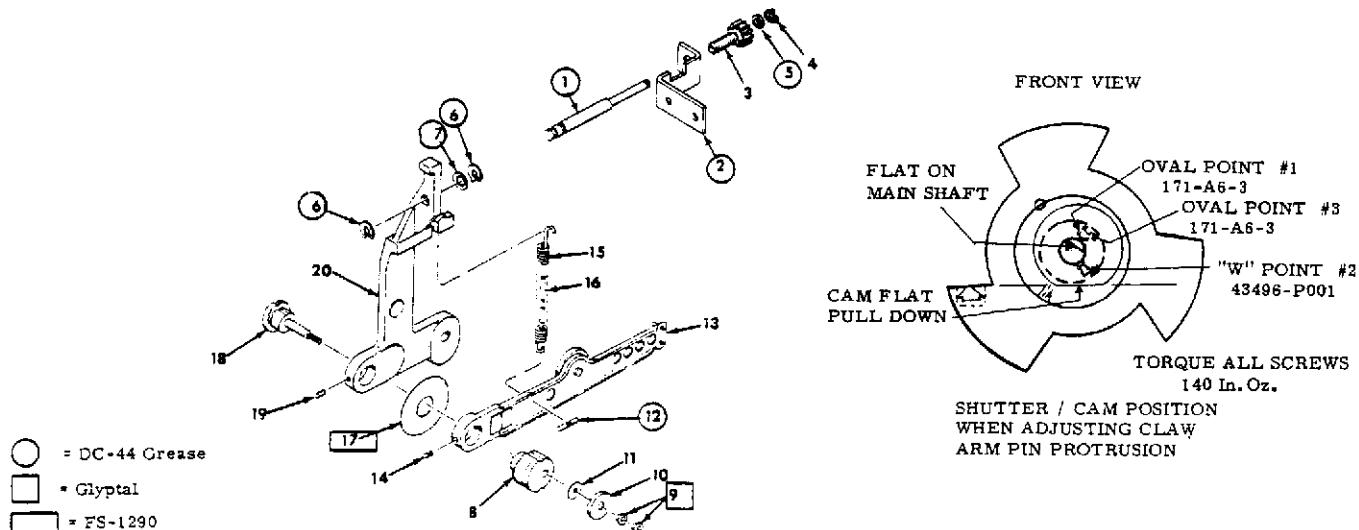

Figure 3-20. REMOVAL AND REASSEMBLY OF CLAW ARM
1. Unhook the top of the Claw Arm Spring from the Framing Arm and make sure all tension is off the Claw Arm before proceeding with these instructions. Throughout this procedure, be extremely careful of the Claw Arm Pins (Figure 3-20).
1. Unhook the top of the **Claw Arm Spring** (15) from the **Framing Arm** (20) and make sure all tension is off the **Claw Arm** (13) before proceeding with these instructions.
2. Remove the oval point Jam Screw (#3 in the Shutter and Shaft Alignment insert on Figure 3-20) and loosen the remaining two Setscrews (#1 and #2 in the insert) and move the Shutter and Cam
1. Apply DC 44 grease (39479-P9) to the Pin (12) and stick the Pin in place on the Claw Arm (13) making sure the notch lines up with the hole in the Claw Arm (13).
2. Apply DC 44 grease to Rod (1) threads.
3. Hook Spring (15) onto the Claw Arm (13) and insert the Claw Arm (13) into the projector between the Framing Arm (20) and the Shutter and Cam Assembly .
4. Lubricate both sides of Washer (17) with FS-1290 lubricant (39479-P4).
5. Assemble Pivot (18), Washer (17), Claw Arm (13), Bushing (8), Washers (11) and (10) and Nuts (9).
6. Tighten Nuts (9) for .001" end play and coat Nuts with Blue Glyptal (39490-P1). The outside Nut is a jam nut to prevent the inside nut from turning off the Pivot shaft.
7. Rotate the Pivot (18) so the Eccentric Pin is between 6 and 7 o'clock when viewed from the front of the projector. Tighten the Pivot Setscrew (19).
8. Rotate the Bushing (8) so its circumference lines up with the circumference of the Pivot (18) and the groove in its side is slightly below the groove in the side of the Pivot (18). Tighten the Claw Arm Setscrew (14).
9. Gently push the Shutter and Cam Assembly forward while pushing down on the Claw Arm (13) making sure the cam follower on the Claw Arm slides under the Cam. Tighten the Setscrew (#1 in the Shutter and Shaft Alignment insert of Figure 3-20) on the flat of the main drive shaft. (See Step 9 under Reassembly of Main Shaft.) Make sure the Claw Arm (13) is not hitting the aperture plate.
10. Hook the top of the Claw Arm Spring (15) on the Framing Arm (20) being very careful that the cam follower on the Claw Arm contacts the radial surface of the Cam.